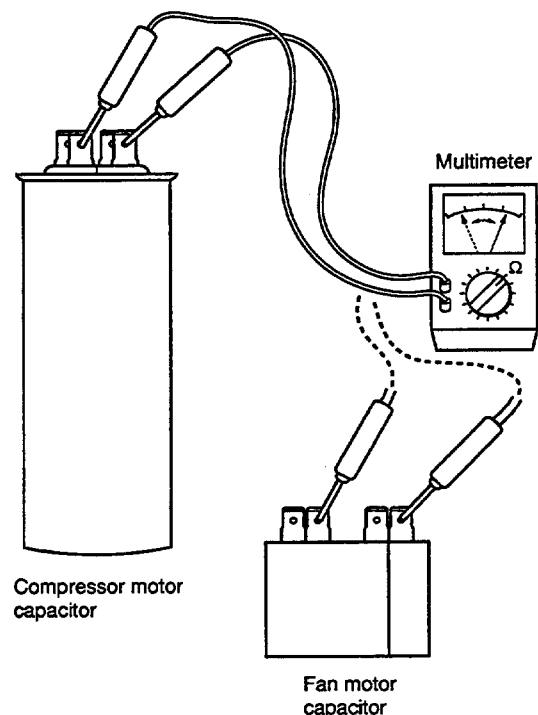

Fig. 10
⑤ Motor capacitor Both in indoor and outdoor unit
- Remove the lead wires from the capacitor terminals, and then place a probe on the capacitor terminals as shown in Fig. 10. Observe the deflection of the pointer, setting the resistance measuring range of the multimeter to the maximum value.